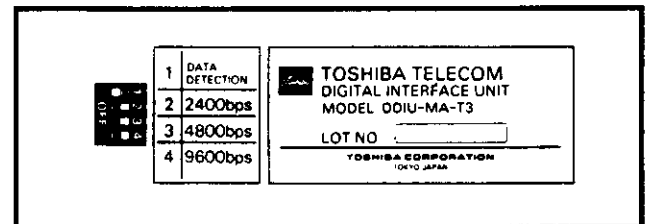

FIGURE 41—DDIU-MAT DIP SWITCHES
10.15 Several DIP switches located on the bottom of the DDIU-MAT, must be set in order for proper operation to occur (Figure 41).
10.18 The power **ON/OFF** switch (Figure 41) provides power to a DDIU-MAT from the power supply. If the switch is **OFF**, then the DDIU-MAT will not function. The electronic telephone, however, will continue to function normally. When the switch is **ON**, both the DDIU-MAT and the electronic telephone will function, and the LED located on the bottom right corner of the DDIU-MAT will light.